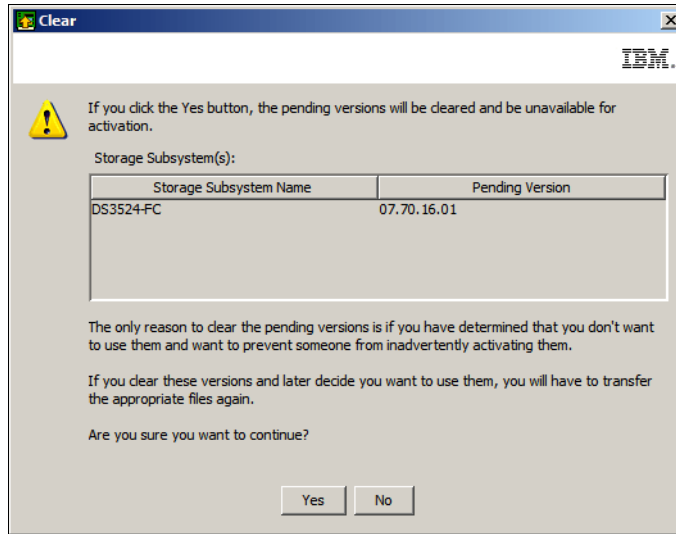

Figure 14-53 Clear pending firmware upgrade
- b. You will be asked to confirm that you want to clear the pending firmware upgrade as shown in Figure 14-53 on page 366.